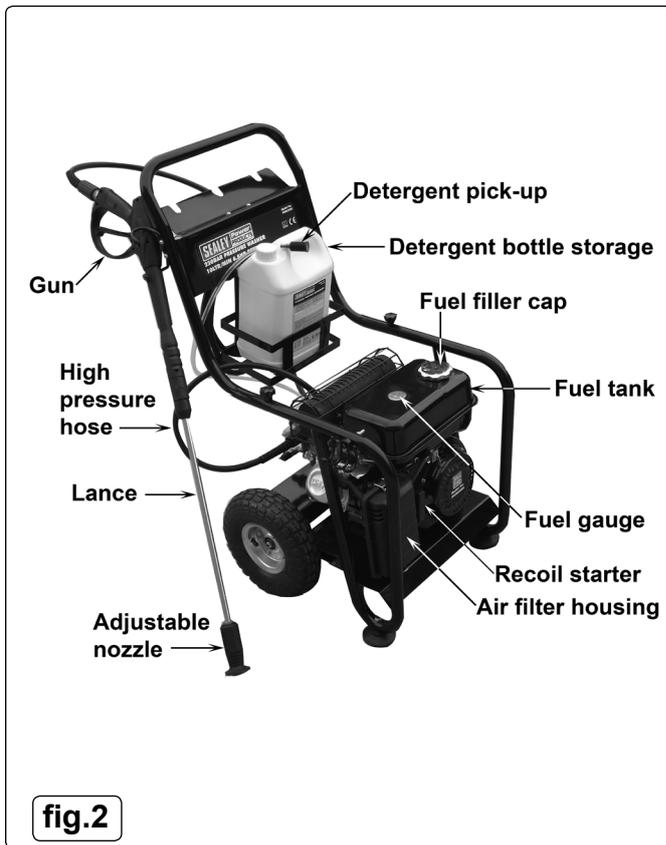

fig.2
- 3.2.1. Remove the cap from a bottle of detergent and place the bottle into the stowage frame as shown in fig.2.
- 5.1.3. Place the detergent input tube into the detergent container (fig.2) Ensure that the filter goes to the bottom of the container.
- 7.4. **AIR CLEANER.** The air cleaner is situated below the fuel tank (see fig.2. To access the air cleaner elements, unclip the over-centre clips at the top and bottom and remove the black cover to reveal the foam pads as shown in fig.11.